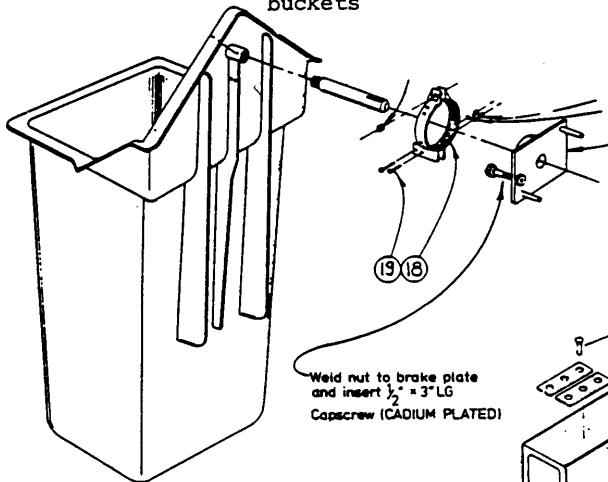

Figure 3
3. Older model King derricks equipped with a pin-on type jib boom will be fitted with a cap screw and nut as shown in Figure 3.